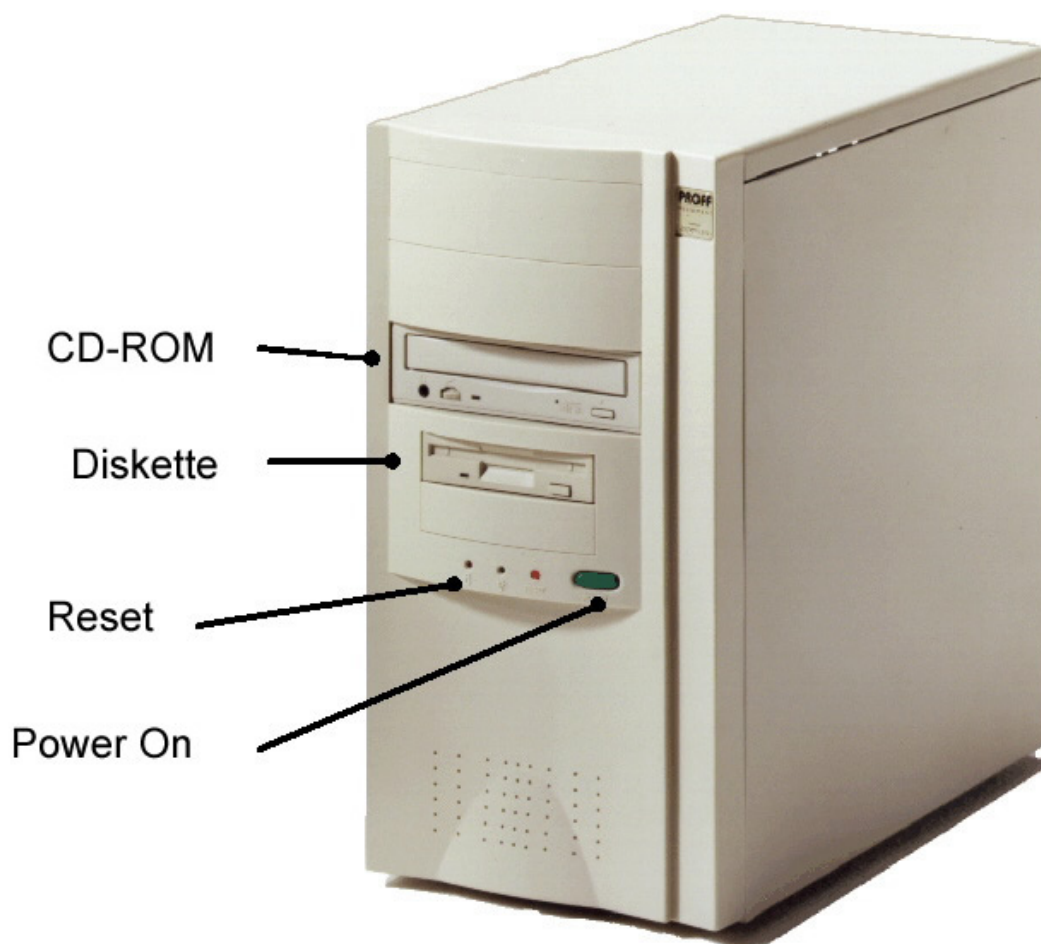

Fig. 15. The central unit contains the majority of a PC's electronics.
- Clones, which are built from standard components. Anyone can build their own clone, like the one shown in Fig. 15 on page 10.
The cabinet shown in Fig. 15 is a *minitower*. In this cabinet, the motherboard is mounted vertically down one side. You can buy a taller cabinet of the same type. It's called a *tower*. If the cabinet is designed to be placed on a desk (under the monitor), it is called a *desktop* cabinet.